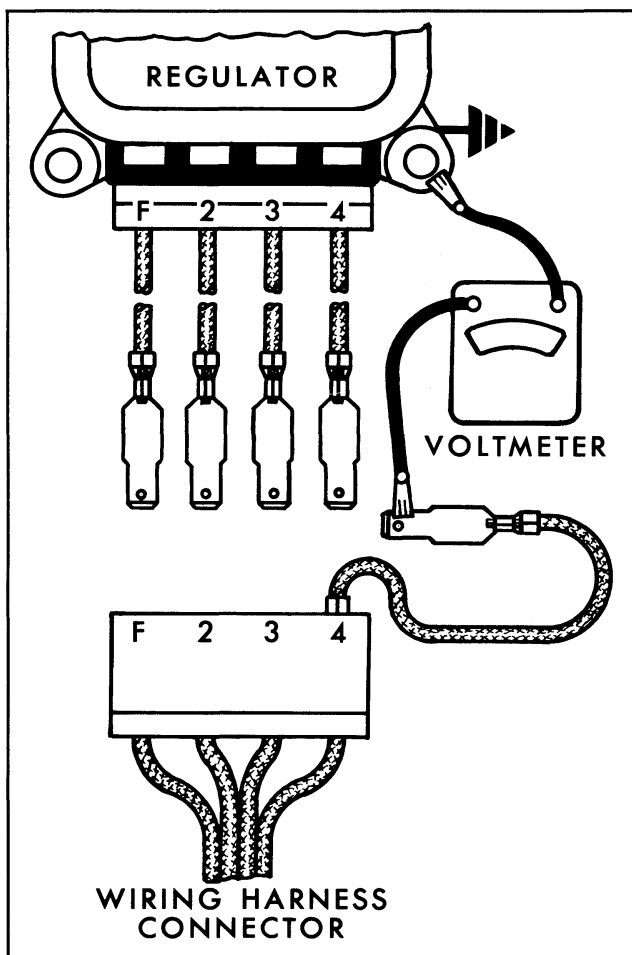

Fig. 11-31 Checking for Open Resistor
4. An Open Resistor: To check for an open resistor (connected to the ignition switch "ACC" terminal), connect a voltmeter from the adapter as shown in Fig. 11-31. Turn the ignition switch to the "ACC only" position. If the voltmeter reads zero, the resistor is open. The resistor may be a separate unit, or it may be in the form of resistance wire. The resistance value is 10 ohm, and the wattage rating is 6.25 watts minimum, on many applications.